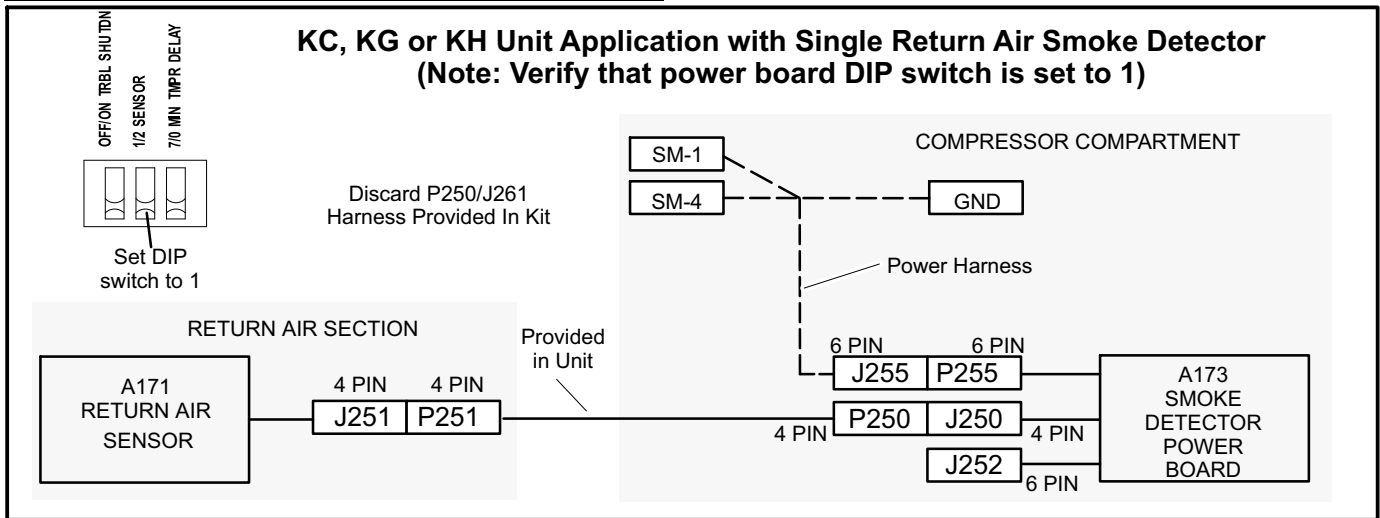
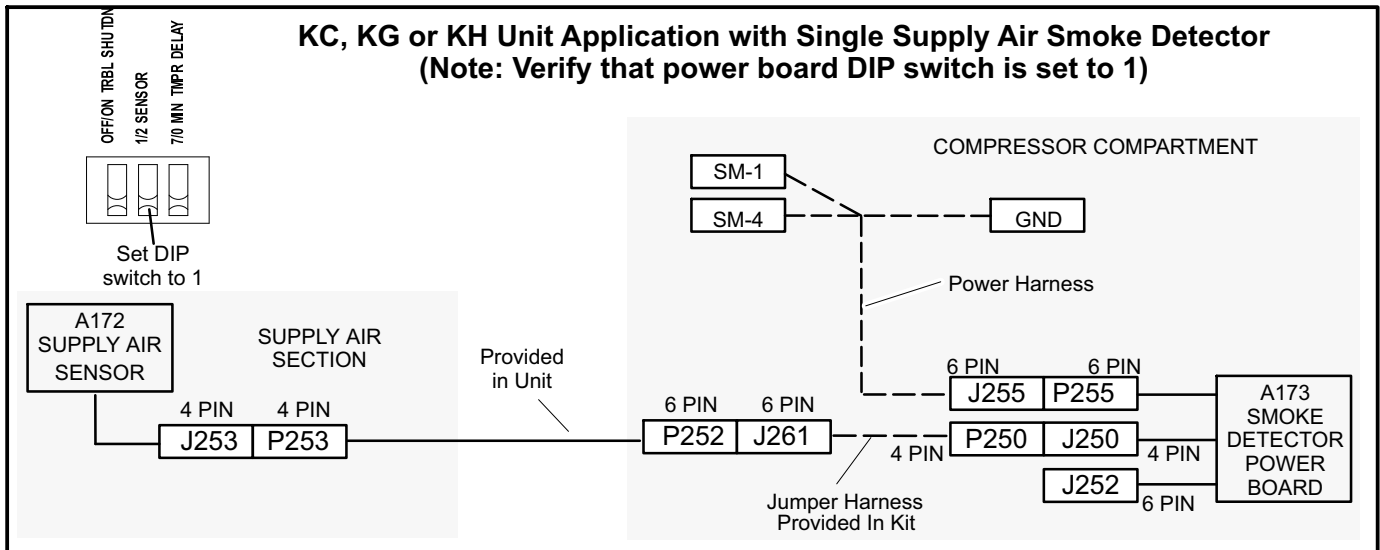
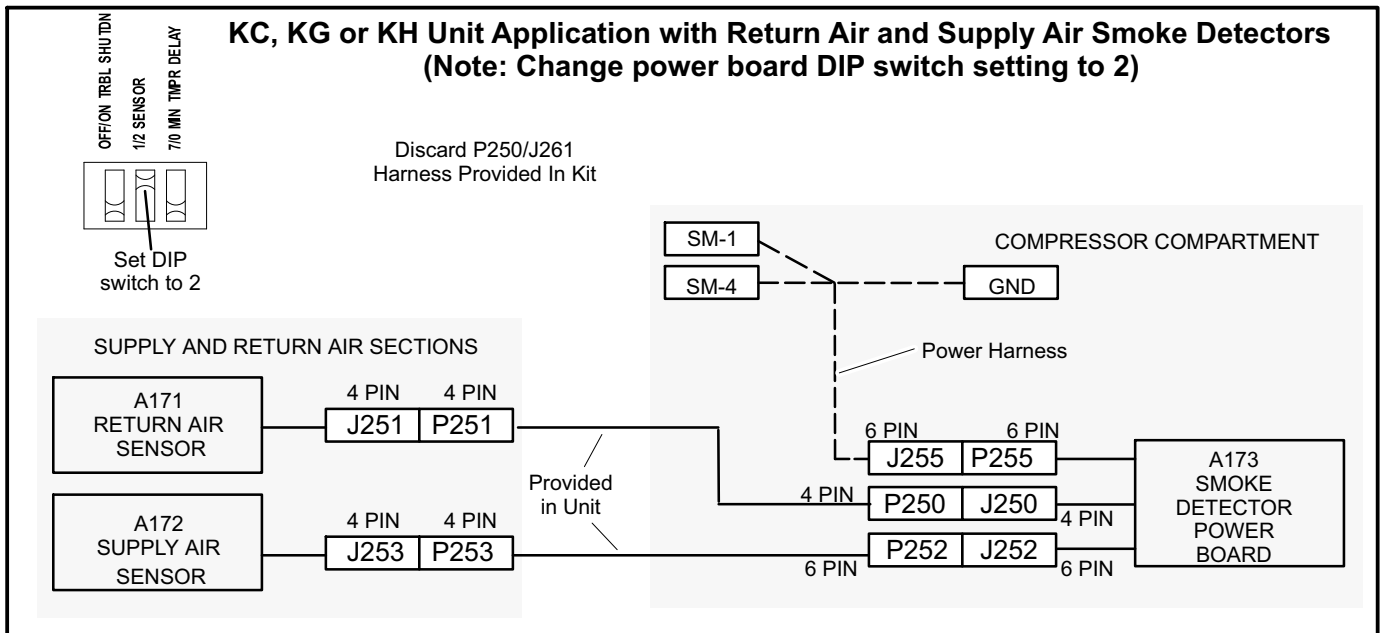

FIGURE 5
FIGURE 6
FIGURE 7
- 3- Make jack/plug connections as shown in figure 5 when installing return air smoke detector only, figure 6 when installing supply air smoke detector only and figure 7 when installing both supply and return air smoke detectors.